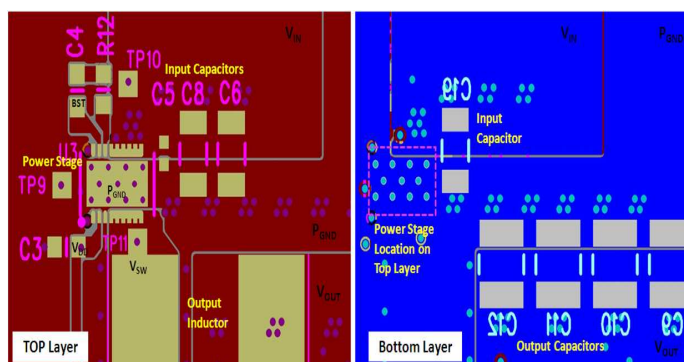

Figure 16. Recommended PCB Layout (Top Down View)
- The placement of the input capacitors relative to V_{IN} and P_{GND} pins of CSD97395Q4M device should have the highest priority during the component placement routine. It is critical to minimize these node lengths. As such, ceramic input capacitors need to be placed as close as possible to the V_{IN} and P_{GND} pins (see Figure 16). The example in Figure 16 uses 1 \times 1 nF 0402 25 V and 3 \times 10 μ F 1206 25 V ceramic capacitors (TDK Part # C3216X5R1C106KT or equivalent). Notice there are ceramic capacitors on both sides of the board with an appropriate amount of vias interconnecting both layers. In terms of priority of placement next to the Power Stage C5, C8 and C6, C19 should follow in order.
- Use the smallest drill size allowed in your design. The example in Figure 16 uses vias with a 10 mil drill hole and a 16 mil capture pad.